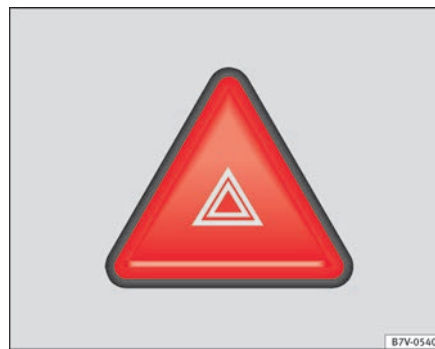

Fig. 186 In the centre of the instrument panel: Switch for hazard warning lights.
2. Turn on the hazard warning lights with the button  ⇒ fig. 186.